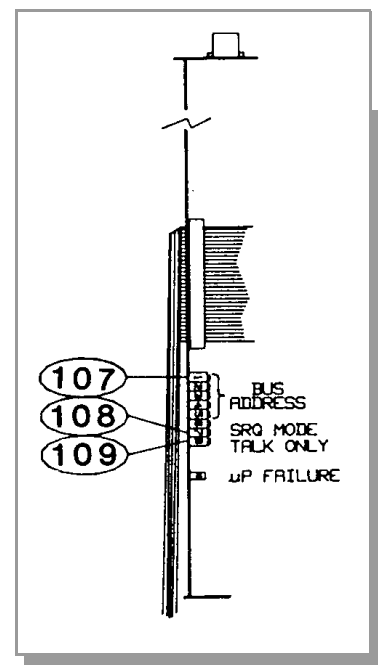

Figure 7-1 IEEE-488 Module, Top View.
Refer to Figure 7-1, switch No. 1 is shown by (107). Each instrument on the IEEE-488 bus has an address from 0 to 30. The address is set at the factory to 8. The user must ensure that every device on his bus has a unique address. To select an address, switches 1 through 5 are adjusted according to binary weights: